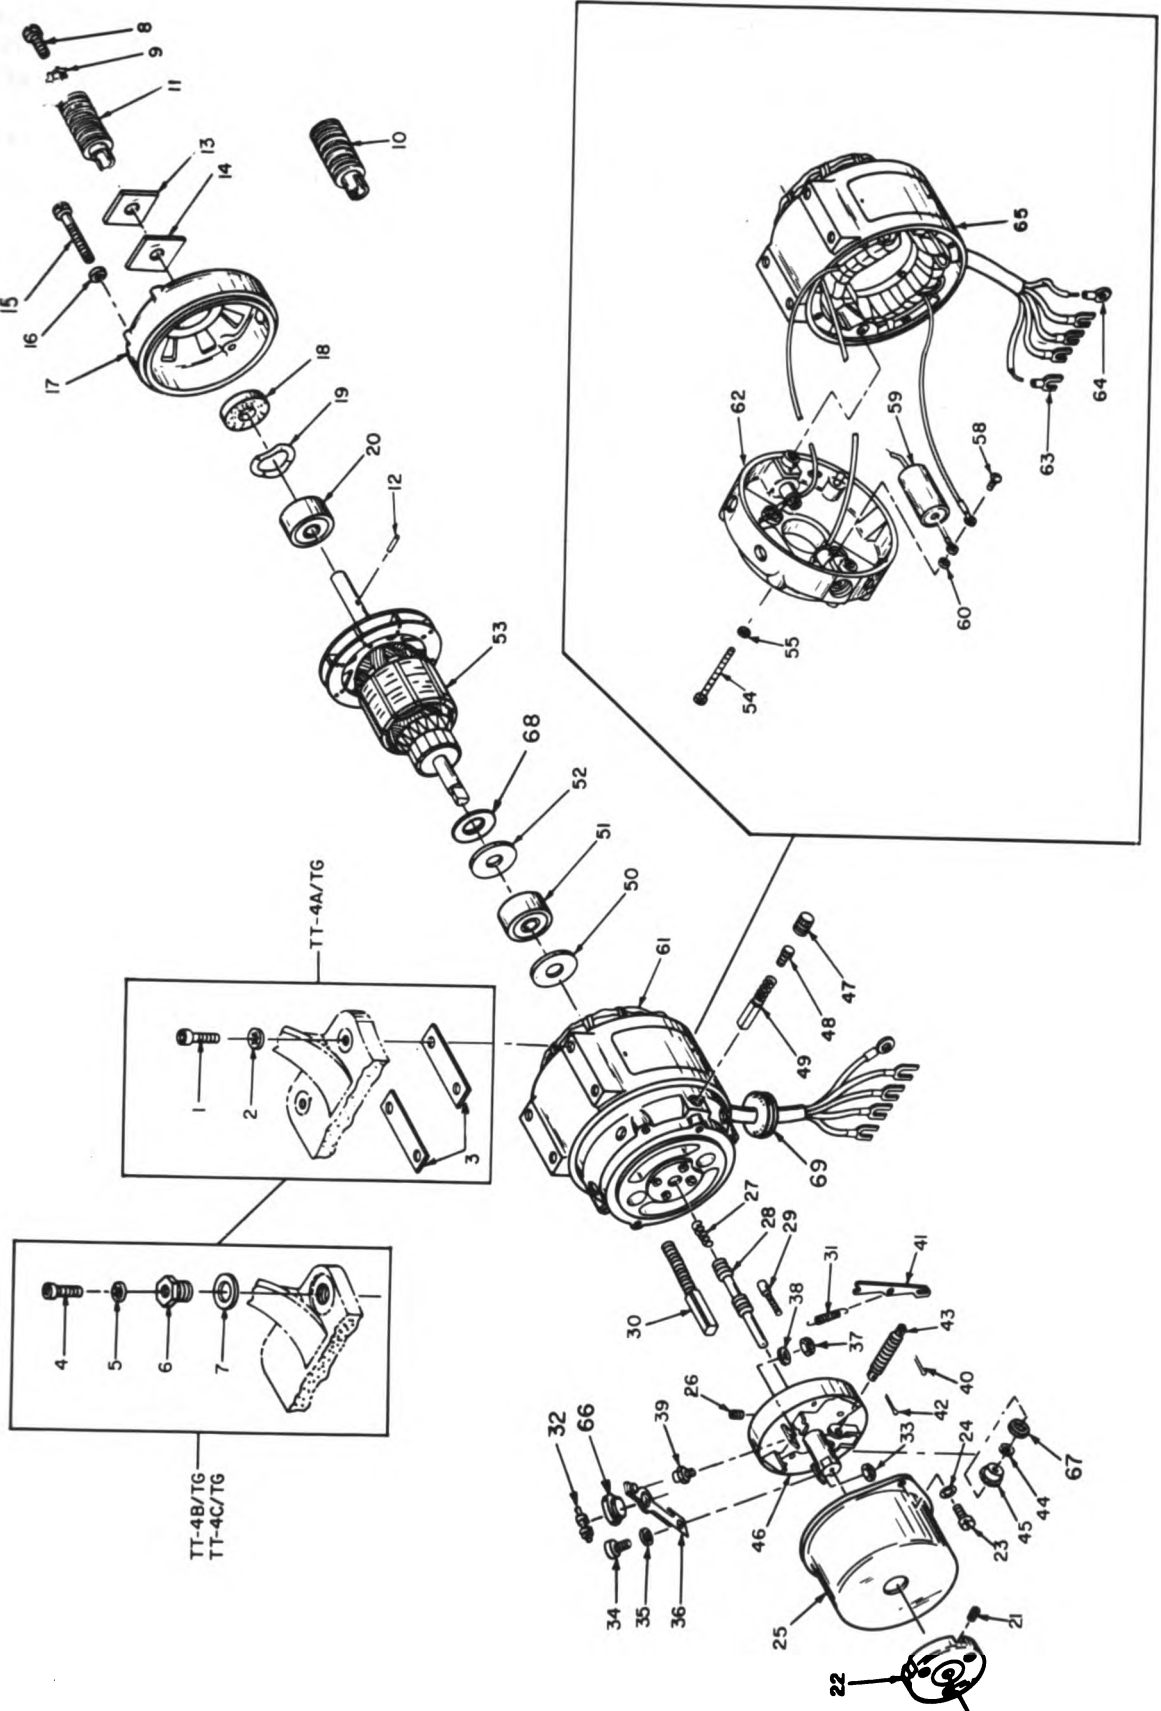

Figure 3-23. Motor and governor, exploded view (TT-4 (\*)/TG and TT-638(\*)/TG ).
(fig. 3-23)
(1) Remove the motor (para 3-26c).
(2) On the TT-4B/TG, TT-4C/TG, TT-698A/TG and TT-698B/TG, remove the three sleeves (6, fig. 3-23) and lockwashers from the teletypewriter frame.
(3) On the TT-4A/TG and TT-698/TG, remove the machine screw and lockwasher that hold the worm gear on the shaft of the armature; remove the worm gear (10 or 11).
(4) On the TT-4B/TG, TT-4C/TG, TT-698A/TG and TT-698B/TG, remove the machine screw and lockwasher that hold the worm gear on the shaft of the armature; remove the worm gear.
(5) Remove the pin (12) that holds the grease seals on the armature; remove the grease seals (13 and 14).
(6) Remove the four machine screws and lockwashers that hold the gear end bell (17) on the motor housing (61); remove the gear end bell, thrust pad (18), thrust washer, and ball bearing (20).
(7) Remove the setscrew that holds the governor target (22) to the shaft of the governor base; remove the governor target.
(8) Remove the two machine screws and lockwashers that hold the governor cover (25) to the motor housing; remove the governor cover.
(9) Remove the two setscrews that hold the governor base (46) to the shaft of the armature (53); remove the assembled governor.
(10) Remove the governor-worm spring (27), governor worm (28), and contact brush (29) from the governor.
(11) Remove the two contact brushes (29 or 30) from the motor housing.
(12) Remove the two brush shields (47) and brush caps (48) that hold the brushes (49) in the motor housing; remove the brushes.
KEY to fig. 3-23:
(1) Reassemble the motor as indicated in figure 3-23; the sequence for assembling the parts is the reverse of the disassembly sequence (a and b above).
(2) Replace the motor (para 3-26d).
(3) Adjust the motor (para 3-262 through 3-266).
(1) Reassemble the motor by reversing the procedures described in *a* above.
(2) Reinstall the motor on the teletypewriter (para 3-26*b* ).
**3-44. Disassembly and Reassembly of Governor (TT-4(\*)/ TG and TT-698(\*)/ TG) (fig. 3-23)**
(1) Remove the governor from the motor (para 3-42*a* ).
(2) Remove the governor spring (31, fig. 3-23) from the governor adjustment lever (41) and from the grooved pin (32); remove the grooved pin.
(3) Remove the self-locking hexagonal nut (33), machine screw (34), and lockwasher that hold the contact (36) to the governor base; remove the contact.
(4) Remove the plain hexagonal nut (37) and lockwasher that hold the contact (39) to the governor base; remove the contact.
(5) Remove the cotter pin (40) that holds the governor adjustment lever (41) to the governor adjustment screw (43); remove the governor adjustment lever.
(6) Remove the cotter pin (42) that holds the governor adjustment screw in the governor base; remove the governor adjustment screw and catch the flat washer and speed adjustment gear (45) as they fall.
(1) Reassemble the governor as indicated in figure 3-23; the sequence for assembling the parts is the reverse of the disassembly sequence.
(2) Replace the governor on the motor by reversing the procedure described in paragraph 3-42*a*.
(3) Replace the motor (para 3-26 *d* ).
(4) Adjust the motor (para 3-262 through 3-266).